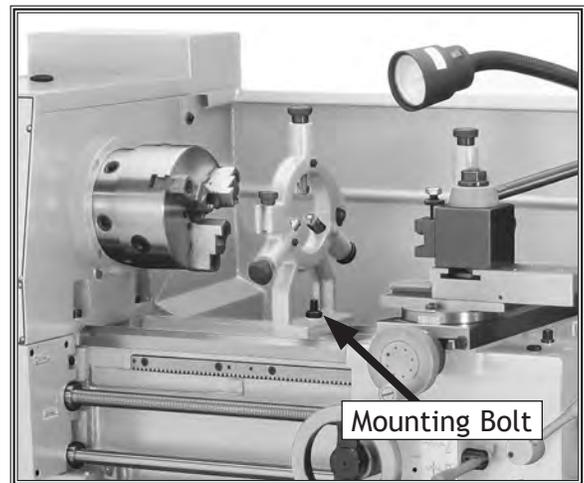

Figure 37. Steady rest in place.
1. Secure the steady rest to the bedway from below with the locking plate, then snug the mounting bolt (Figure 37).